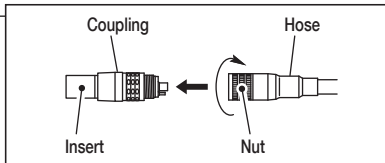

Fig. 37
- 1) Align the pipe of the coupling and the pipe hole of the hose, and push the coupling onto the hose. Hold the coupling tightly and fasten the nut of the hose securely. (Fig. 37)